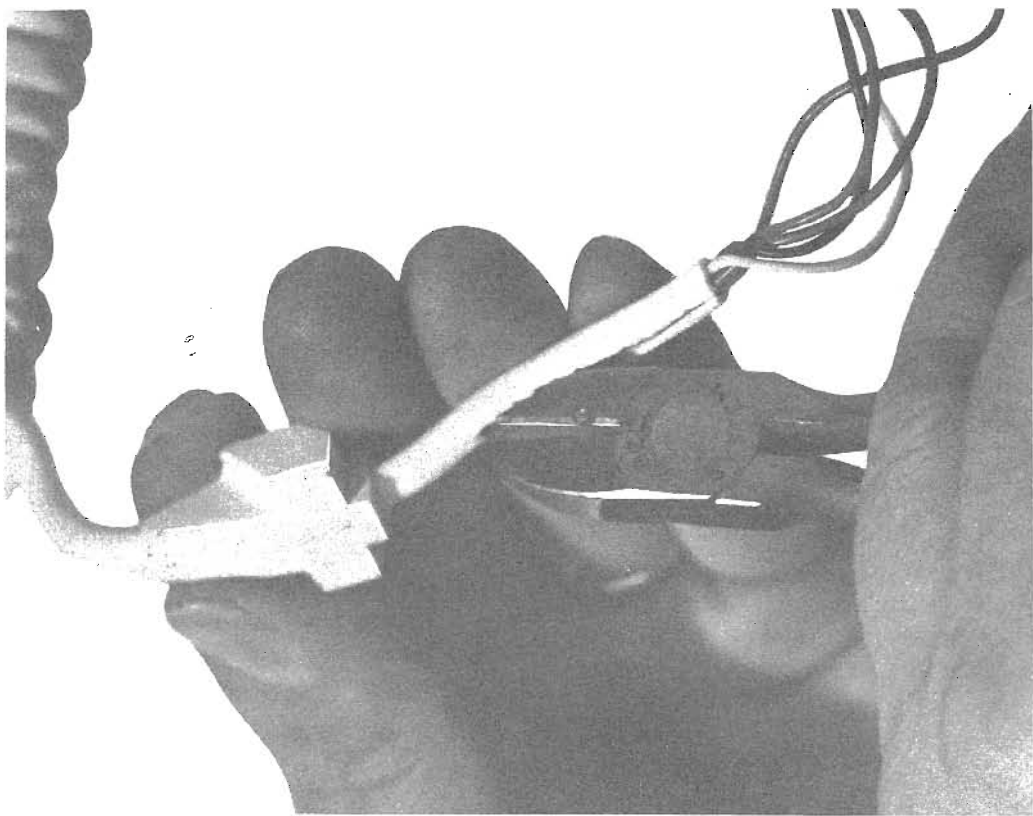

Fig. 9 — Slitting Sheath
- The outer sheath of the handset cord must be cut back to within 1 inch of the handset grommet. (see Figs. 9 and 10).